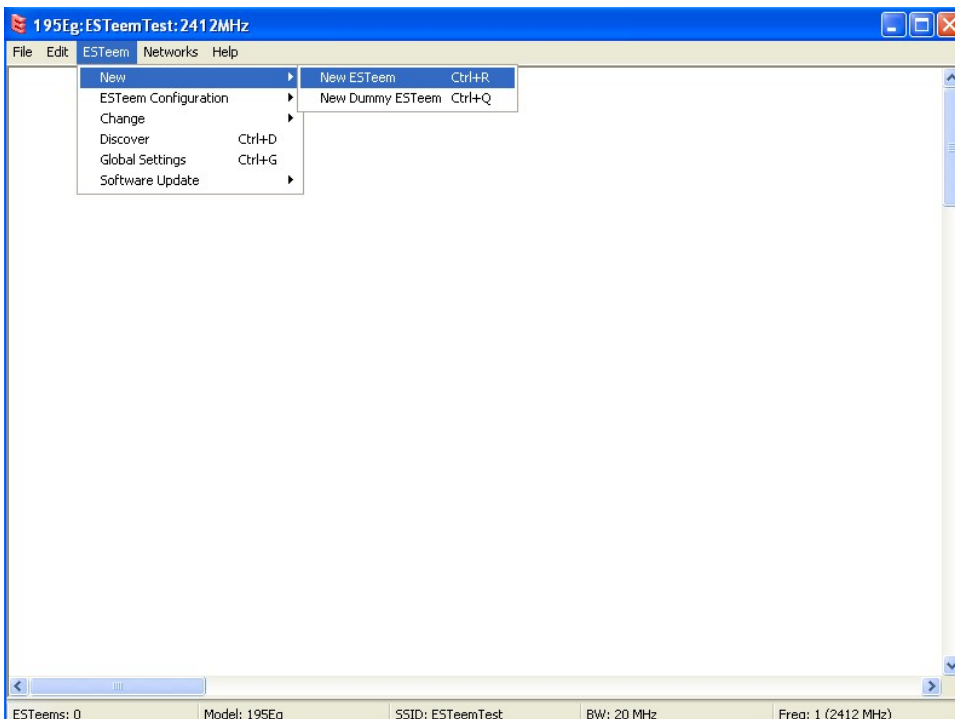

Figure 9: Adding ESTeem to Blank ENC Configuration Page
1. Consult the ENC Utility's User Guide on how the create a new wireless network. Once you have a blank network configuration page (Figure 9), select ESTeem from the menu items to display the drop down menu, then select New>New ESTeem.